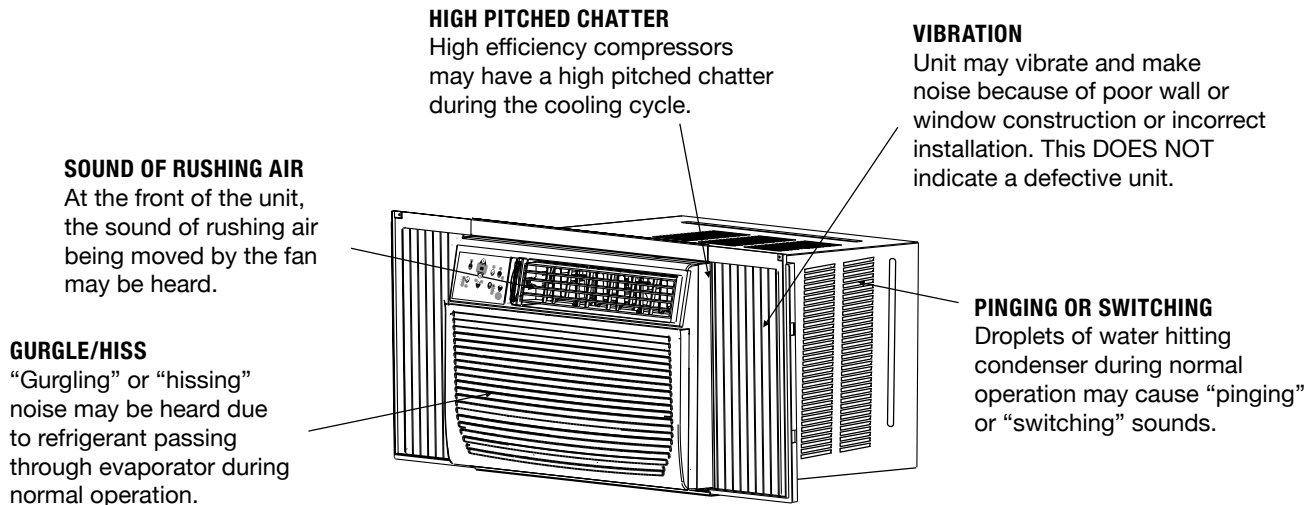

**FIG. 19B**
2. Attach right angle safety lock. (Fig. 19B)